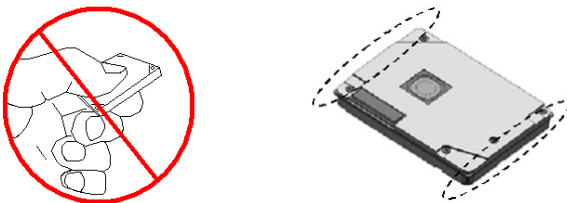

Figure 1 ST1.3 Series—Improper handling and Finger grip areas
- ST1.3 Series disc drives are fragile. Do not drop or jar the drive. Handle the drive only by the edges or by the finger grip area shown in Figure 1. Keep the device in the packaging until you are ready to install it and between uses to minimize handling damage.